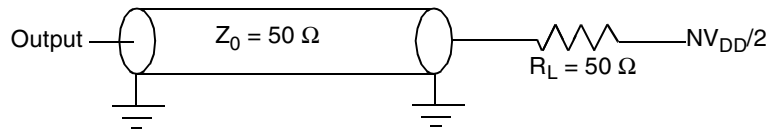

Figure 40. AC Test Load for the JTAG Interface
- All outputs are measured from the midpoint voltage of the falling/rising edge of t_{TCLK} to the midpoint of the signal in question. The output timings are measured at the pins. All output timings assume a purely resistive 50-Ω load (see Figure 40). Time-of-flight delays must be added for trace lengths, vias, and connectors in the system.
- The symbols used for timing specifications follow the pattern of $t_{(first\ two\ letters\ of\ functional\ block)(signal)(state)\ (reference)(state)}$ for inputs and $t_{(first\ two\ letters\ of\ functional\ block)(reference)(state)(signal)(state)}$ for outputs. For example, t_{JTDVXH} symbolizes JTAG device timing (JT) with respect to the time data input signals (D) reaching the valid state (V) relative to the t_{JTG} clock reference (K) going to the high (H) state or setup time. Also, t_{JTDVXH} symbolizes JTAG timing (JT) with respect to the time data input signals (D) went invalid (X) relative to the t_{JTG} clock reference (K) going to the high (H) state. Note that, in general, the clock reference symbol representation is based on three letters representing the clock of a particular functional. For rise and fall times, the latter convention is used with the appropriate letter: R (rise) or F (fall).
Figure 40 provides the AC test load for TDO and the boundary-scan outputs.